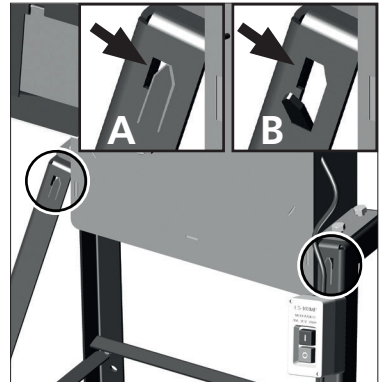

Fig. 05
There are small tabs (A) on the shredder frame, [Fig. 05], which you can pull out with a screwdriver so they can be used as hooks (B), [Fig. 05] to hang a bag from. Insert a screwdriver in the slit next to the tab and pull it out until the steel bends like a hook (B), [Fig. 05].